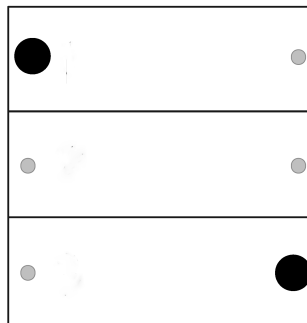

Figure 6: Activating programming mode for channel buttons
- Press the top left and bottom right buttons simultaneously for longer than 4 seconds (Figure 6).
- Press the top left and bottom right buttons simultaneously for longer than 20 seconds (Figure 6). The red status LED flashes after 4 seconds. After 20 seconds the LED flashes faster.
- Press the top left and bottom right buttons simultaneously for longer than 20 seconds (Figure 6).